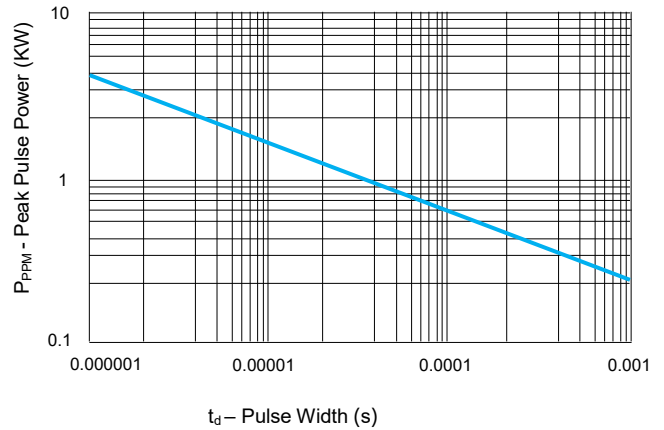

FIGURE 2 Peak Pulse Power Rating Curve
2. Surge current waveform per 10/1000  $\mu$ S exponential wave and derated per Fig.2.